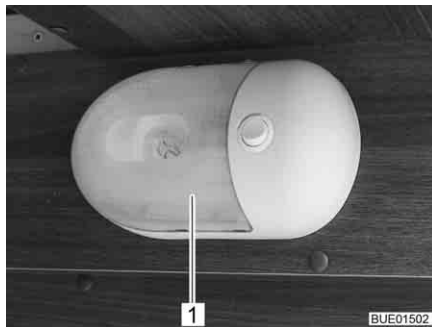

Fig. 276 Garage light
- Carefully push the transparent cover (Fig. 276,1) together from both sides, pull it lightly from the switch and pull it off forwards.